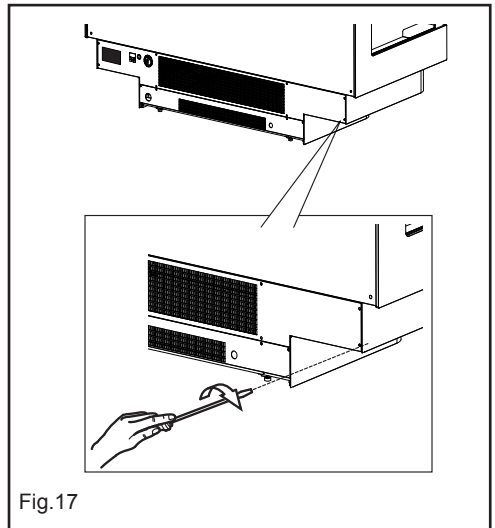

Fig.17
- Remove the protection loosening the screws on the sides of the mask (fig.17).